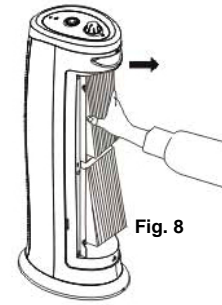

Fig. 8
2. To remove the permanent HEPA-Type filter, grasp the sides of the filter and pull outwards. (Fig. 8)